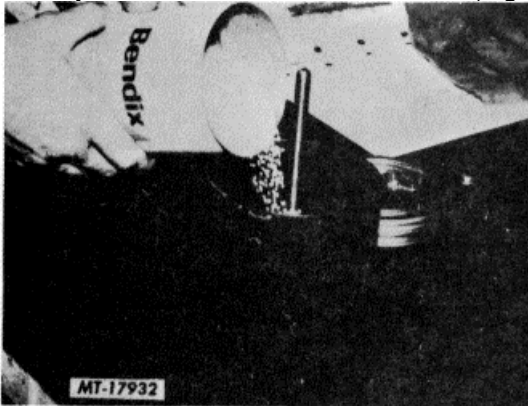

Fig. 13 Installing Desiccant
4. Pour the entire package of desiccant material into the shell making sure none is lost. Handle shell carefully so that the bolt does not fall out (Fig. 13).